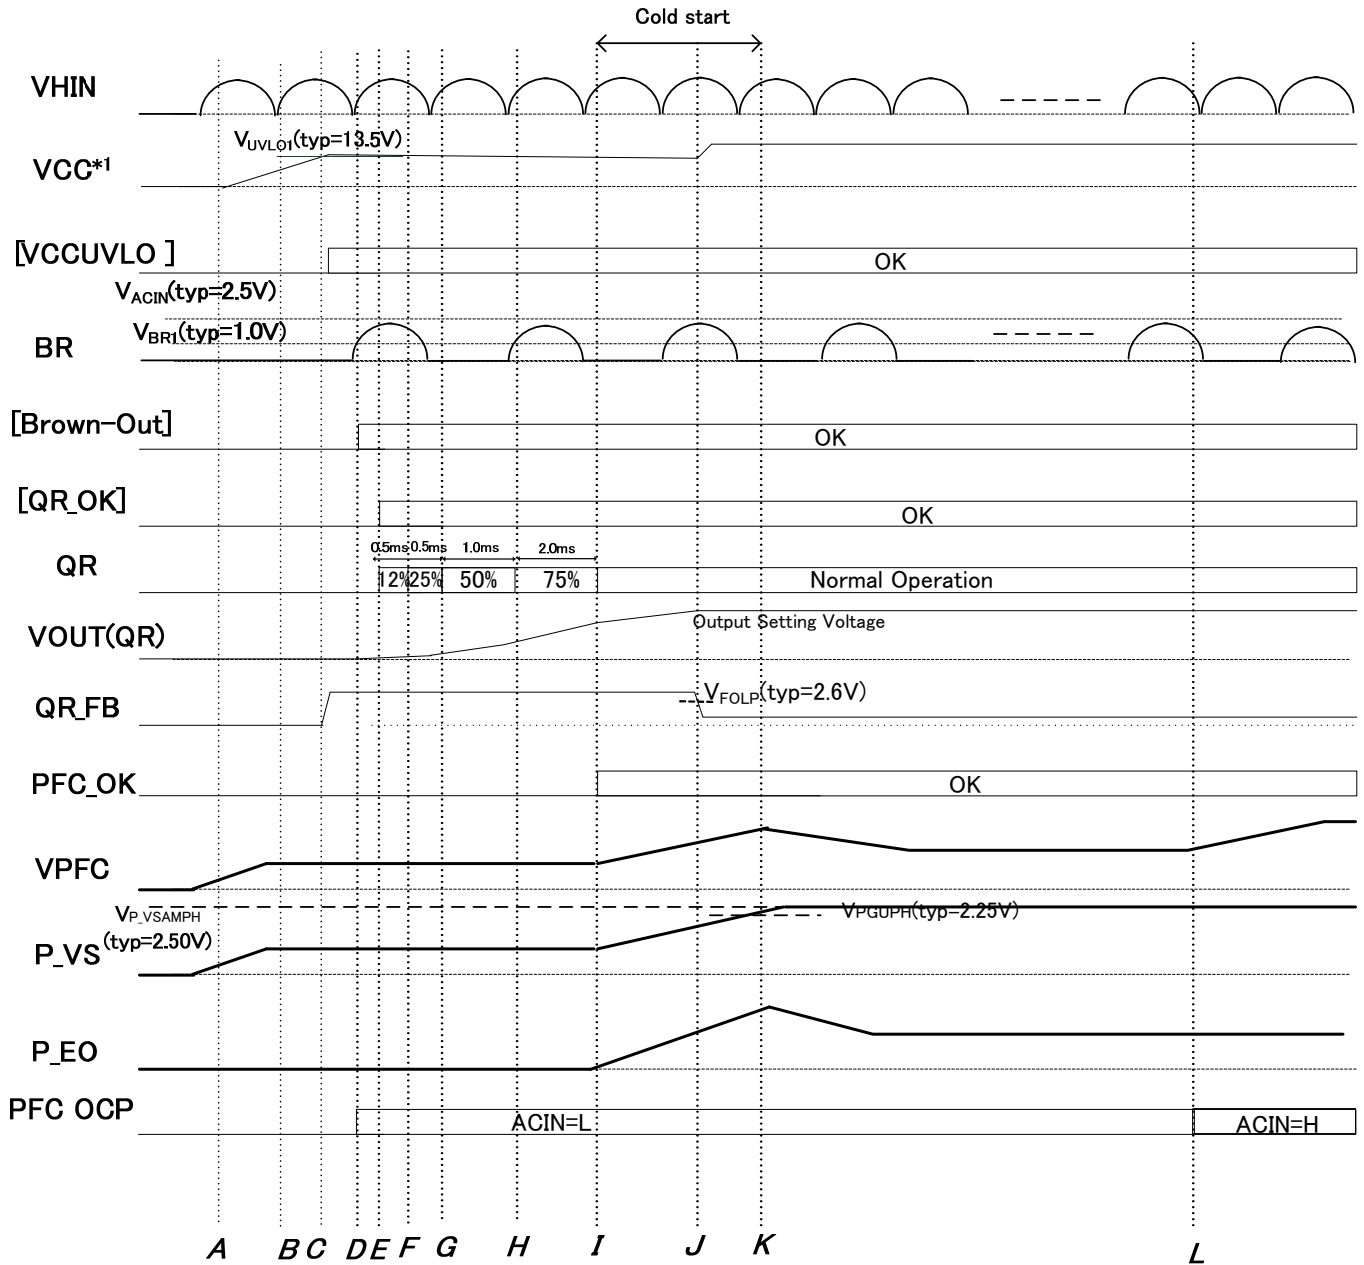

Figure 6. Start-up Sequence Timing Chart
About the above the cold start operation, PFC operates until P\_VS voltage rises to 90% of AC 240V. When PFC output voltage rises to 90% the cold start is released. After cold start operation, the ACIN logic is set to ACIN=L when the detection of AC voltage hasn't finished yet. When the stable AC waveform is applied seven times in a row, the IC detects AC peak voltage by BR pin and the setting of ACIN=H/L is determined. When QR output is stable and A quarter of the QRFB voltage(CS detect voltage) is lower than POFFSET voltage, PFC stops after the time set at P\_TIMER pin. Refer to Figure 6.
**Operation explanation of Figure 6**